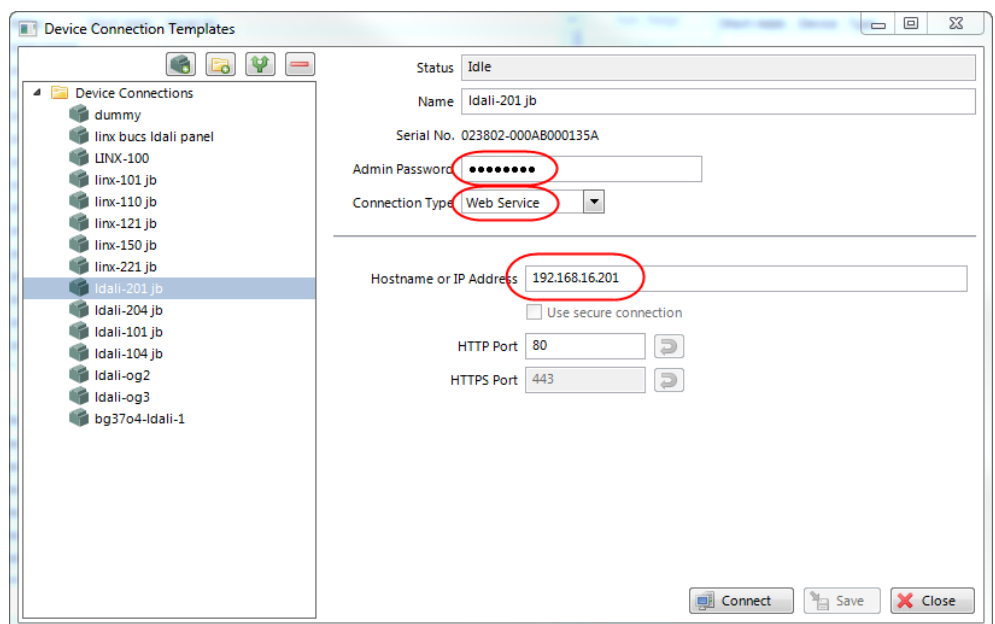

Figure 17: LINX Configurator software, Connection Dialog.
2. In the Connection dialog (see Figure 17) choose connection type “Web Service”, enter the IP address or hostname of the L-DALI and the device’s “admin” password. The default “admin” password is ‘loytec4u’ (older firmware versions used ‘admin’).